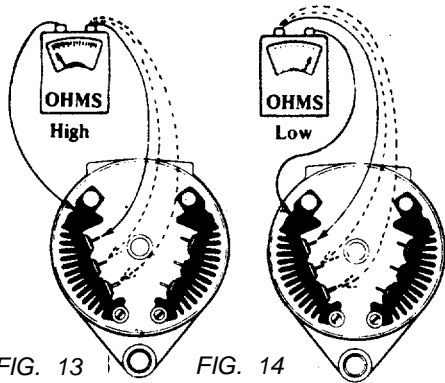

FIG. 13 | FIG. 14
1. Connect the positive lead of the diode tester, ohmmeter, or test light to the positive heat sink and touch the negative test lead to each of the three diode terminals. A high resistance should be indicated and if a test light is being used, it should not light. If any of the three diodes shows a low resistance, or the test lights, the diode is shorted (see Fig. 13).